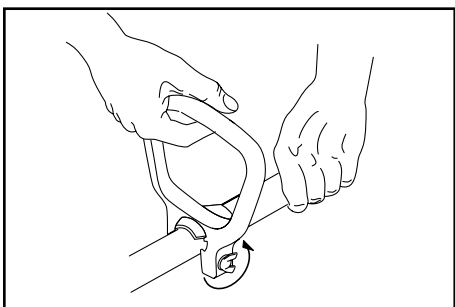

Fig. 2
2. Install the bolt, washer, and wing nut, and tighten (Fig. 2).
3. Position the D-Handle as desired and tighten the wing nut (Fig. 2).